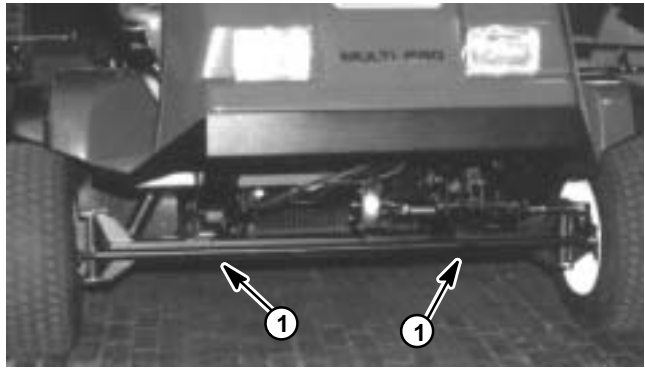

Figure 1
2. Position jack securely under the front axle, directly beneath the leaf springs (Fig. 1).